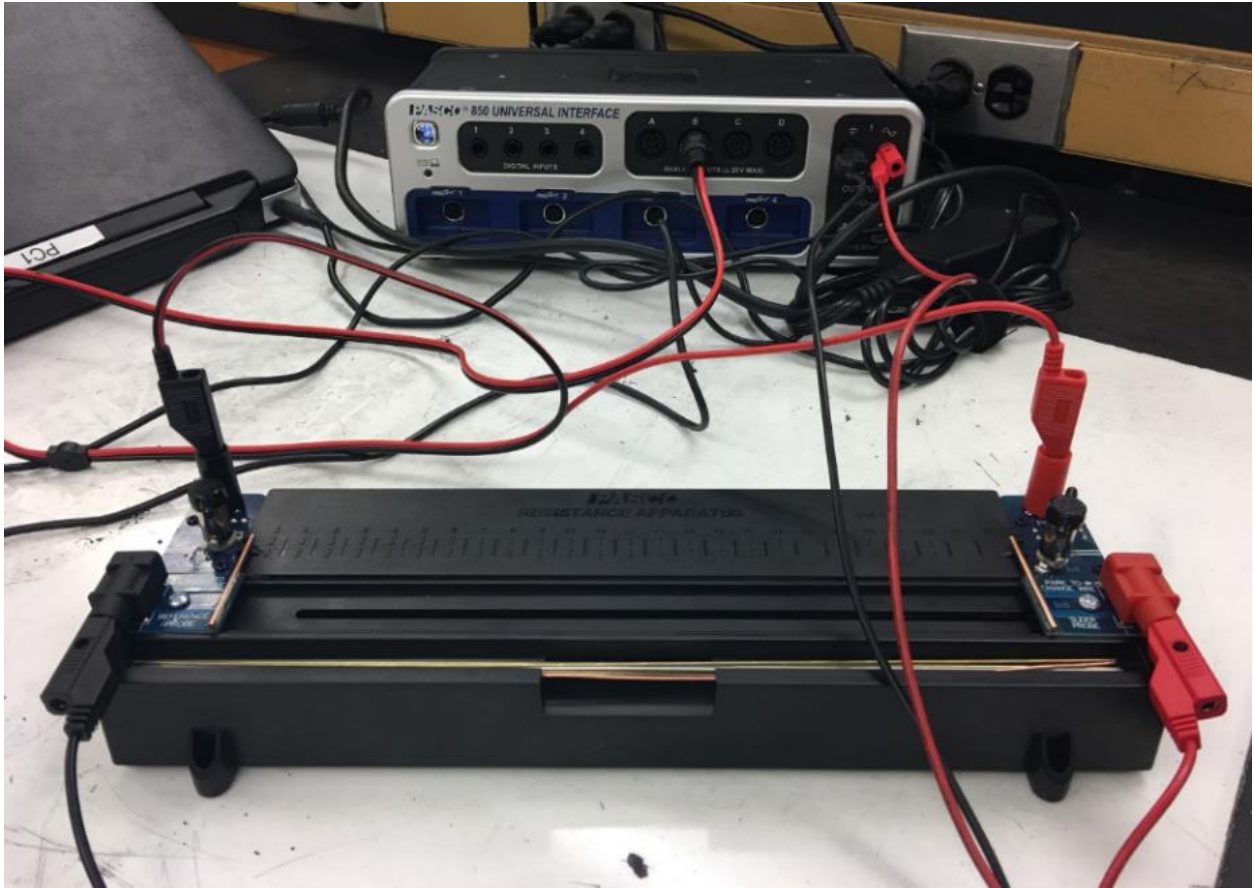

Figure 3: Measurement Setup
- (a) Using a voltage sensor, connect Channel B of the power supply to the Reference probe and Slider probe of the PASCO Resistance Apparatus. Then connect output 1 of the power supply to the power supply terminals of the PASCO resistance apparatus (see Figure 3). This is known as a “four terminal” connection. (The key reason four-terminal measurements are useful is that the reference/slider probes do not themselves carry the large current coming out of output 1. Thus they only pickup the small voltage across the conductor and not the larger voltage drop caused by the resistance of all the connections used to bring the output current to the conductor. probe used to drive the current through the conductor.)